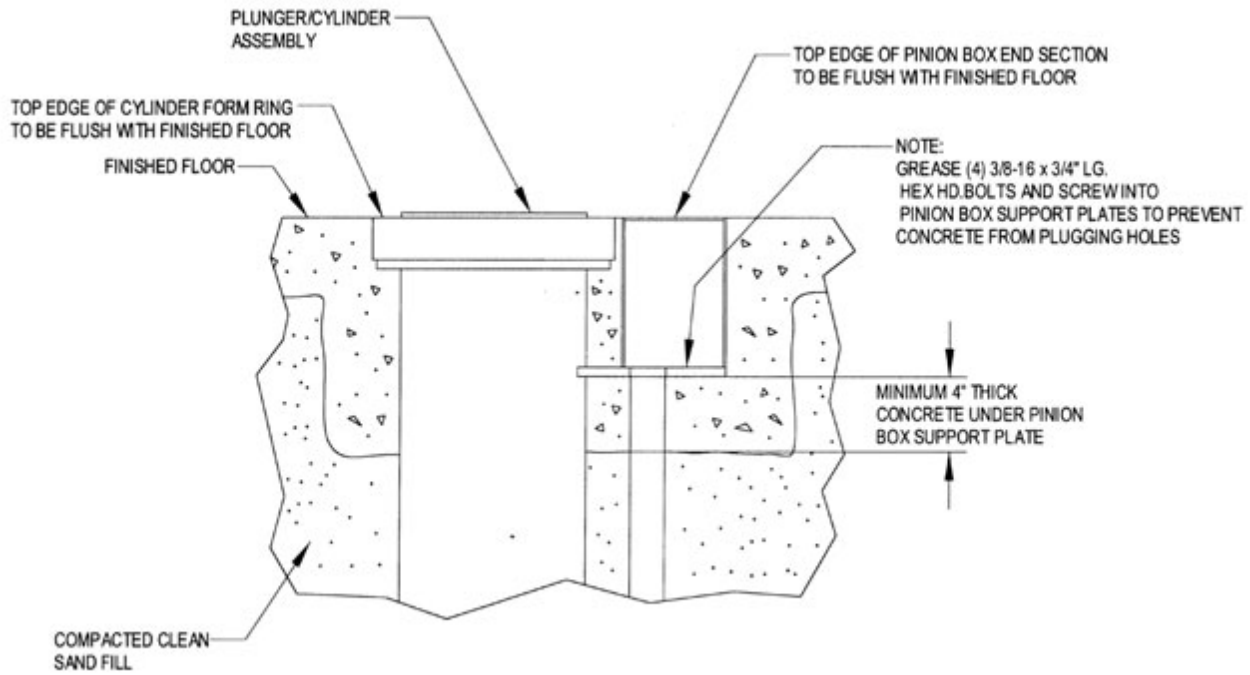

Fig. 7
Pour concrete floor. Protect the rack and pinion from concrete. Grease (4) 3/8-16 x 3/4 lg. hex hd. bolts and screw into pinion box support plates to prevent concrete from plugging holes. Be sure to pour concrete under pinion box support plates. See FIG. 7. Do not allow concrete to splash or pour into housings. Allow concrete to cure at least 24 hours.